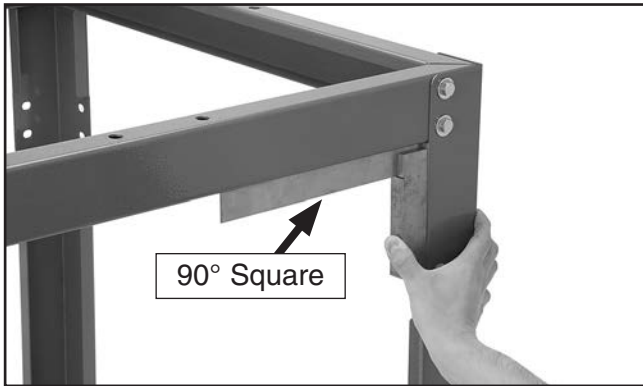

Figure 6. Squaring stand assembly before tightening stand hardware.
- Square up the stand, as shown in **Figure 6**, and tighten all nuts and bolts.